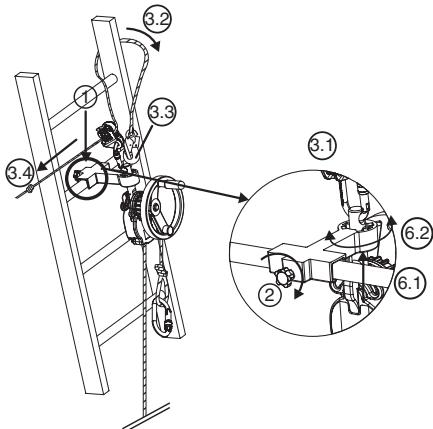

Fig. 7
#### 6.3.3. derope™ UP K descender (Fig. 7)
1. Place the small support bracket on the ladder bar in the position required to carry out the rescue operation above the person to be evacuated (Fig.7, 1).
2. Tighten the locking pin located at the back of the support bracket using the clamping knob (Fig.7, 2).
- Secure the connector of the adjustment device LCM 05 in the hole at the top of the fastening pin (Fig.7, 3.1).
- Run the belay lanyard around the ladder bar located above the bracket, going around one of the ladder uprights (Fig.7, 3.2).
- Connect the belay lanyard connector in the connector of the adjustment device LCM 05 (Fig.7, 3.3).
- Tension the belay lanyard by pulling on the free strand (Fig.7, 3.4).
6. Align the derope™ descender as may be required, modifying the position of the fastening pin in the indexing device (Fig.7, 6.1 – 6.2).